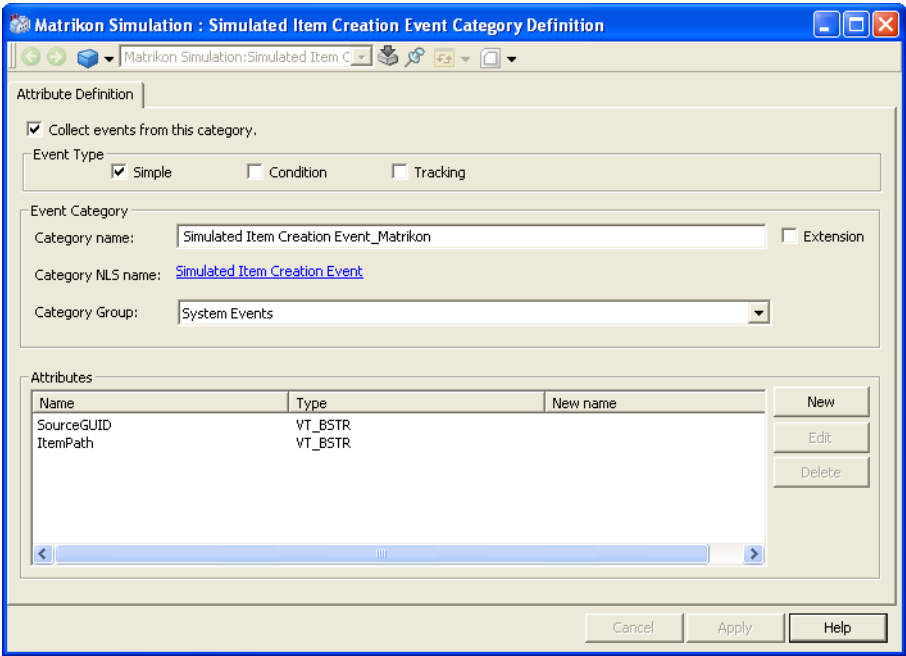

Figure 343. Attribute Definition Tab
- 1. Specify a category group mapping, see Figure 343.